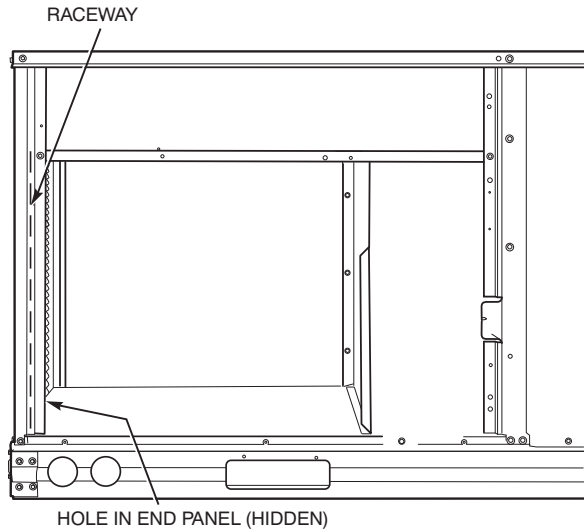

Fig. 38 — Field Control Wiring Raceway
Pass the thermostat control wires through the hole provided in the corner post; then feed the wires through the raceway built into the corner post to the control box. Pull the wires over to the terminal strip on the upper-left corner of the Unit Control Board. See Fig. 38.
2. Feed wires through the raceway built into the corner post (see Fig. 38) to the 24v barrier located on the left side of the control box. The raceway provides the UL-required clearance between high-voltage and low-voltage wiring.
2. Feed wires through the raceway built into the corner post (see Fig. 38) to the 24-v barrier located on the left side of the control box. The raceway provides the UL-required clearance between high-voltage and low-voltage wiring.